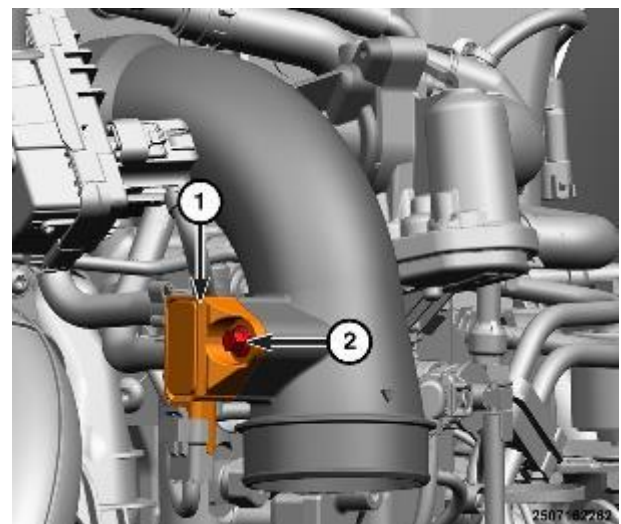

Figure 27 – Differential Pressure Sensor
55. Remove the bolt (2) and reposition the differential pressure sensor (1) away from the upper turbocharger inlet elbow (Figure 27).